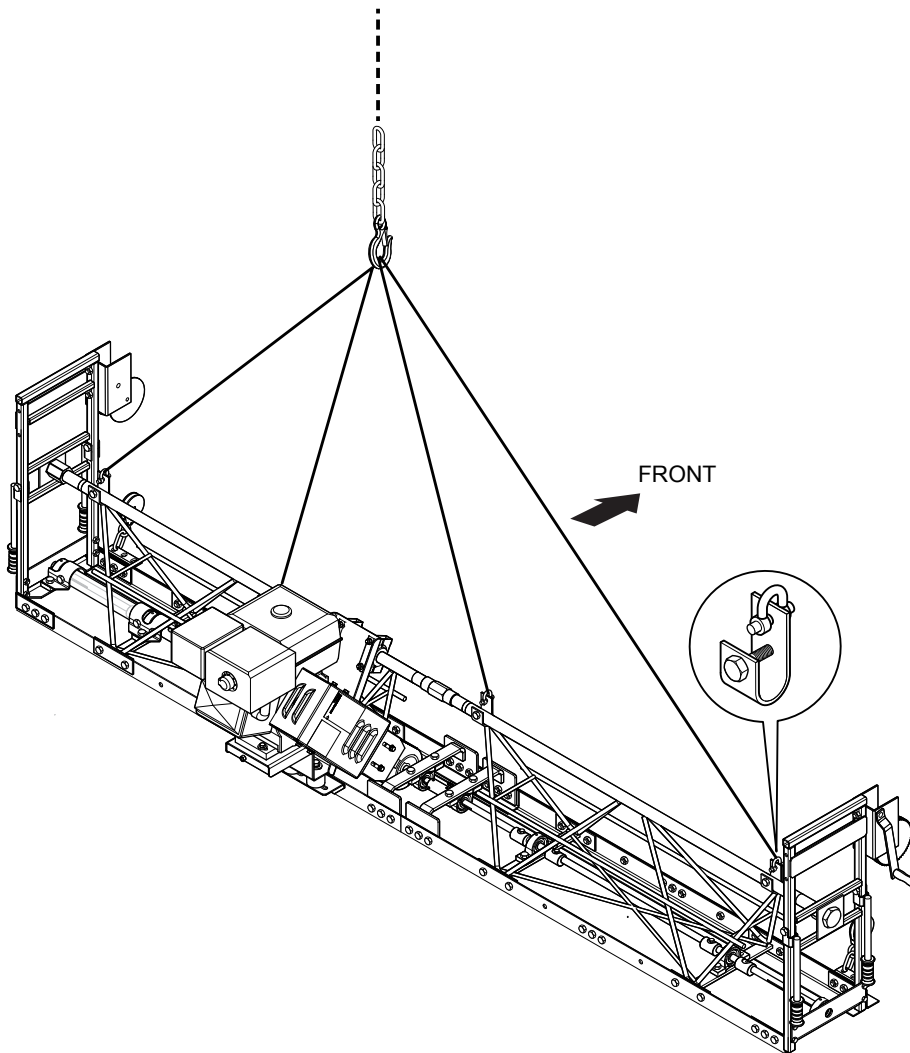

Figure 1. Lifting the Screed
The following procedure and Figure 1 describe how to lift the vibratory screed.
1. Attach the U-shaped hanger and associated hardware to the top of each truss frame section as shown in Figure 1. Tighten hanger securely so that it will not slip.